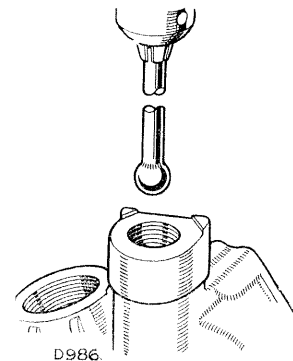

Fig. AO-7—Oil pump ball valve lapping tool
- Solder a new ball bearing (Part No. 3748) on to the end of a suitable length of tubing, as shown in Fig. AO-7.